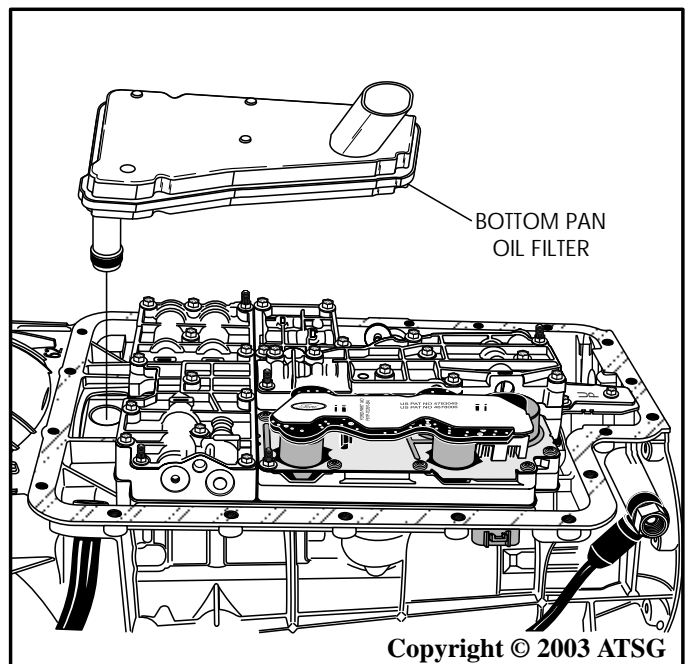

Figure 196
15. Lubricate the seal on the new filter with small amount of Trans-Jel®, and install new filter into bore in oil pump, as shown in Figure 196.